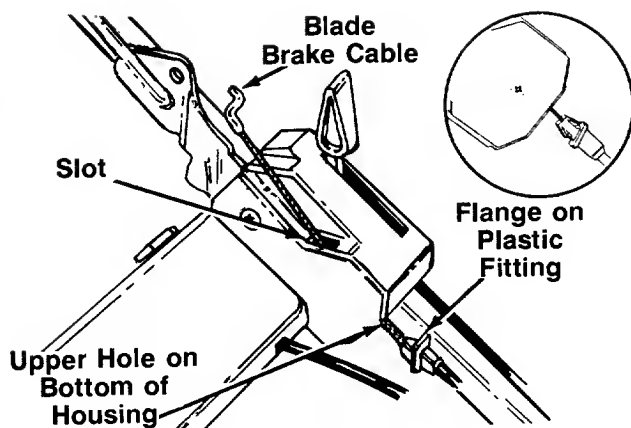

FIGURE 3.
1. The brake cable is attached to the engine, and has a "Z" fitting on the loose end. Route the brake cable to the outside of the catcher panel and handle mounting bracket, and below the lower handle. Place end of cable into the upper hole on the bottom of the control housing, and through the slot as shown. The angle of the plastic flange must be positioned downward as shown in figure 3. Be careful not to bend or kink the cable at any time.